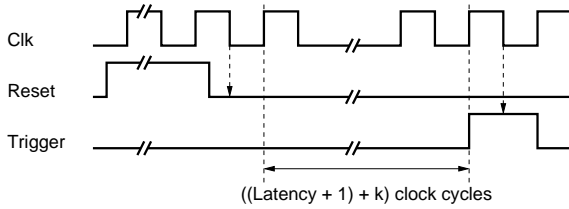

Figure 10: Timing relation between *Reset* and *Trigger* in order to trigger on a defined pipeline column number.
**Reset, Trigger, Testpulse** The timing relation between *Reset* and *Trigger* in order to trigger on pipeline column number  $n$  can be depicted from Fig. 10, whereas  $n = k$  modulo 187.  $k$  must be equal or greater than 1, *Latency* refers to the content of the Latency register (no. 16). *Reset* and *Trigger* are sampled internally to the negative edge of *Clk*.